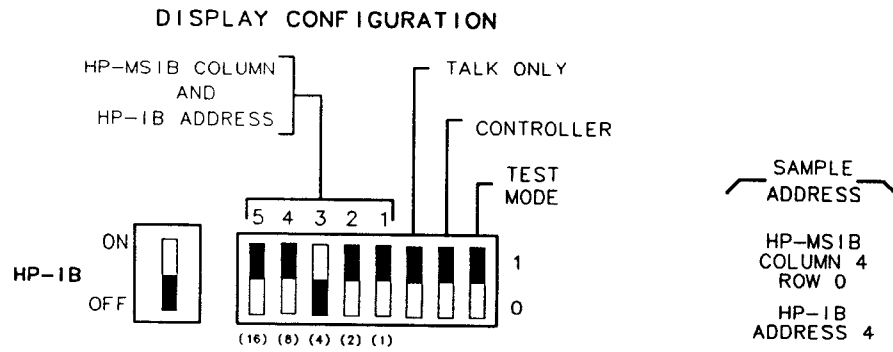

Figure 2-4. Display Address Switches
1. Locate the address switches on the rear panel of the display. See Figure 2-4 for an example of the switches.
When you set the HP-IB switch to 0 (OFF), the HP-IB interface for the *display section only* is turned off. Modules plugged into the display are unaffected and may still talk to each other via HP-IB or communicate over the rear-panel HP-IB connector. The HP-IB switch does not disrupt instrument operation. Refer to Figure 2-4 for the location of the HP-IB switch.
A display is an independent element. You may assign the display both HP-MSIB and HP-IB addresses. Figure 2-4 illustrates the display's address switches. The address switches are a group of two-position toggle switches, which can be set to either 1 or 0.